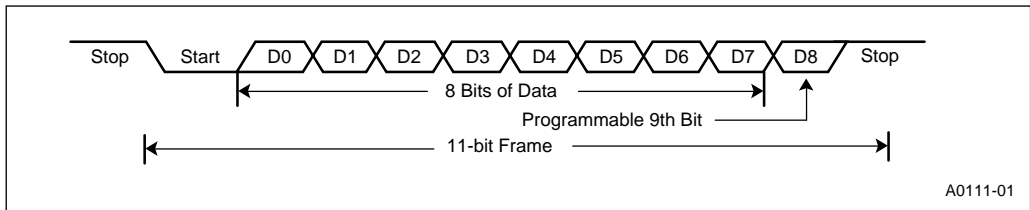

Figure 7-5. Serial Port Frames in Mode 2 and 3
Mode 2 is the asynchronous, ninth-bit recognition mode. This mode is commonly used with mode 3 for multiprocessor communications. Figure 7-5 shows the data frame used in this mode. It consists of a start bit (0), nine data bits (LSB first), and a stop bit (1). During transmissions, setting the TB8 bit in the SP_x_CON register before writing to $SBUF_x_TX$ sets the ninth transmission bit. The hardware clears the TB8 bit after every transmission, so it must be set (if desired) before each write to $SBUF_x_TX$. During receptions, the RI flag and RL_x interrupt pending bit are set only if the TB8 bit is set. This provides an easy way to have selective reception on a data link. (See “Multiprocessor Communications” on page 7-9.) Parity cannot be enabled in this mode.